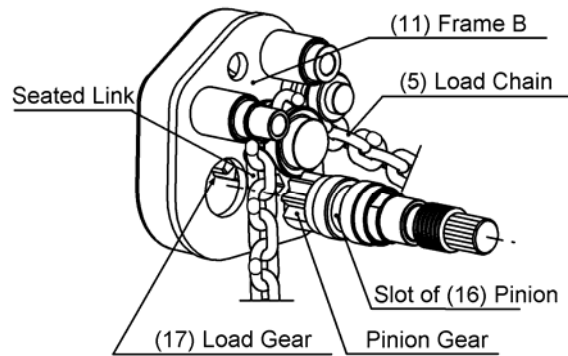

Figure 5-9 Pinion Attachment to Frame B
- 2) Align the pinion with (17) Load Gear as viewed from the hole of Frame B and insert the pinion into the hole as shown in Figure 5-9.